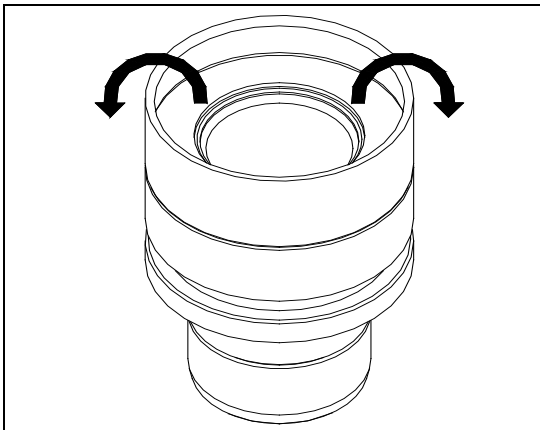

Fig.20
- When not wearing glasses, fold out the eye cups to prevent stray light. (See Fig.20)